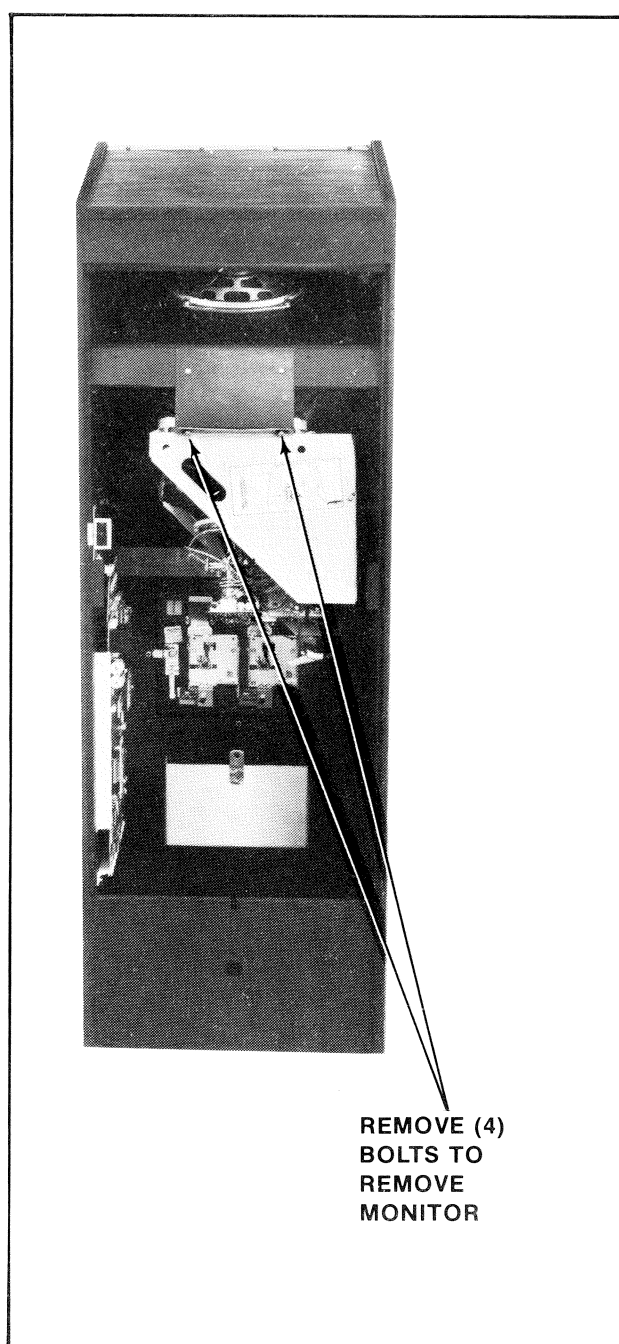

Figure 16 Removing monitor — Mini game
2. MINI MODEL: See Figure 16.
The monitor is removed by supporting it and pulling straight back as shown in Figure 16.